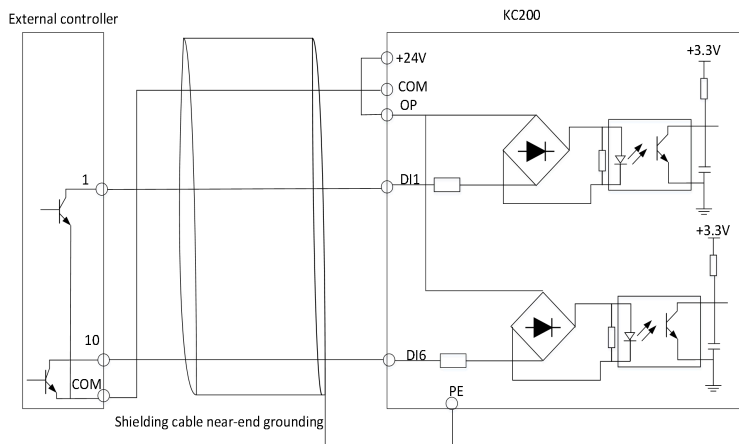

Figure 3-8 Source connection of the +24V power supply in the AC drive
1) Use the internal +24V power supply of the AC drive, and the external controller is an NPN type common emitter output connection method, as shown in Figure 3-8.